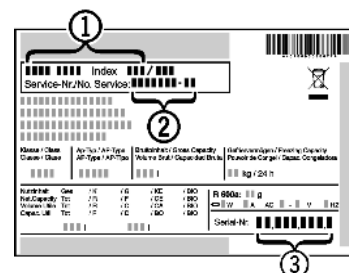

Fig. 43
- ▶ Read off the appliance name *Fig. 43 (1)*, service no. *Fig. 43 (2)* and serial no. *Fig. 43 (3)* from the model plate. The model plate can be found on the inside of the appliance on the left.